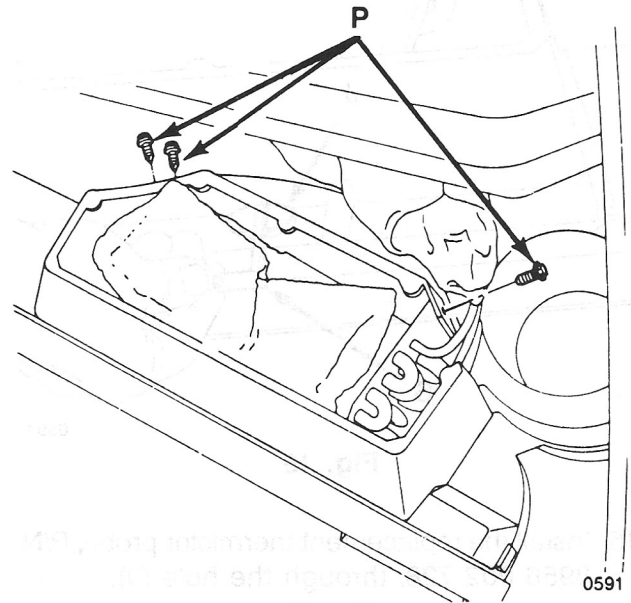

Fig. 13
11. Remove the evaporator core mounting screws (P) (Fig. 13).